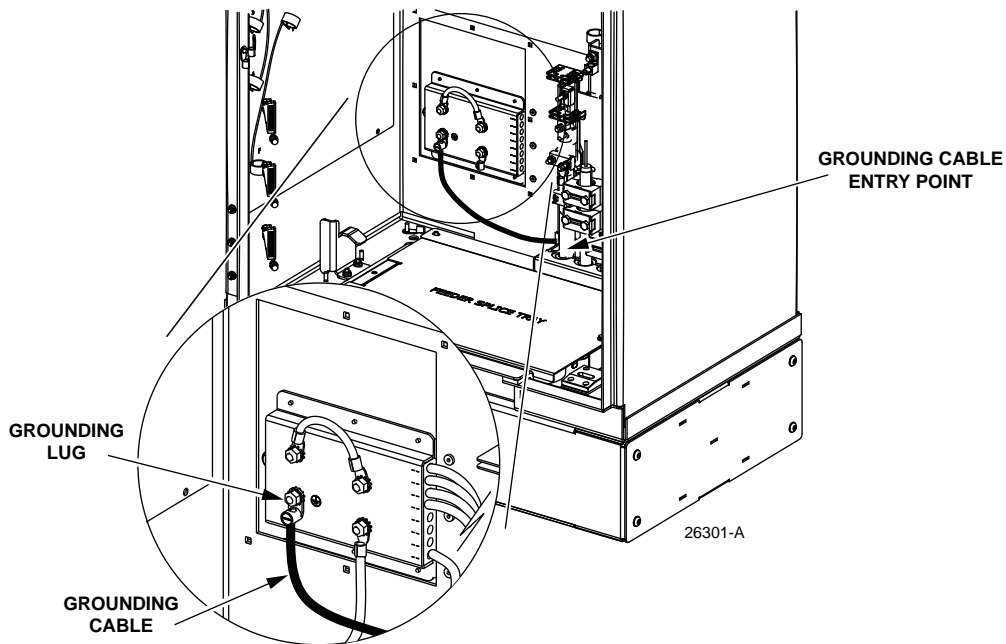

Figure 9. Grounding Wire Connection To Cabinet
2. Working from the bottom side of the cabinet, insert the grounding wire through the flexible membrane at the point indicated in Figure 9.